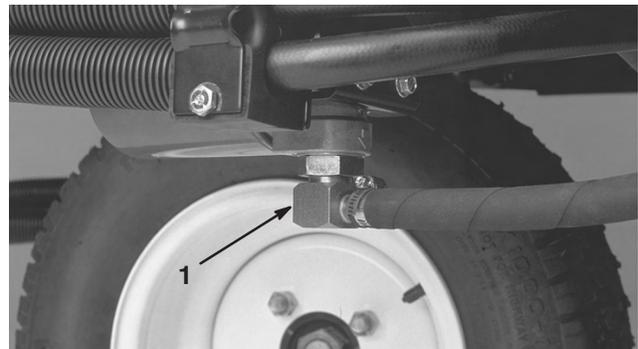
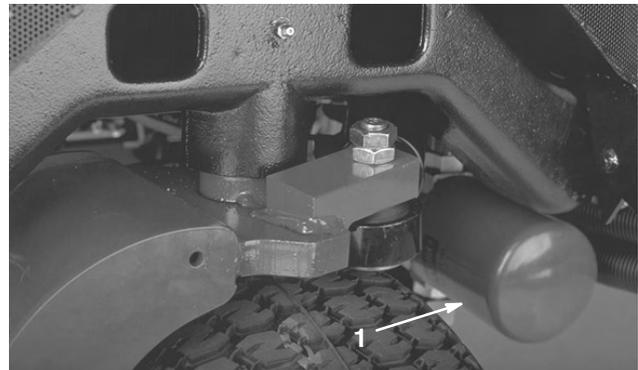

Figure 50
Figure 51
2. Disconnect the hydraulic line (Fig. 50) or remove the hydraulic filter (Fig. 51) and let the hydraulic fluid flow into a drain pan. Install the hydraulic line when hydraulic fluid stops draining.
3. Clean around the filter mounting area. Place a drain pan under the filter (Fig. 51) and remove the filter.